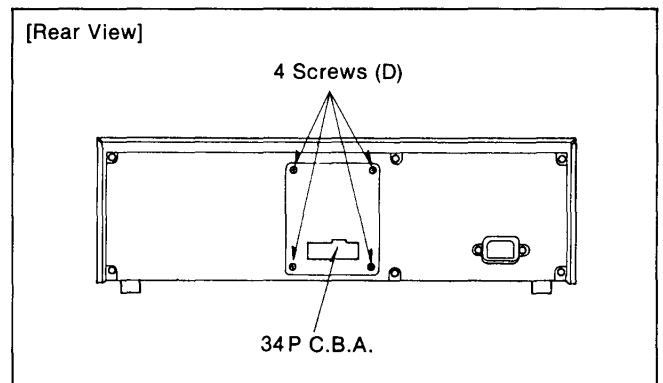

Figure D5
1. Unscrew the 4 screws (D) on the 34P C.B.A. (Figure D5).